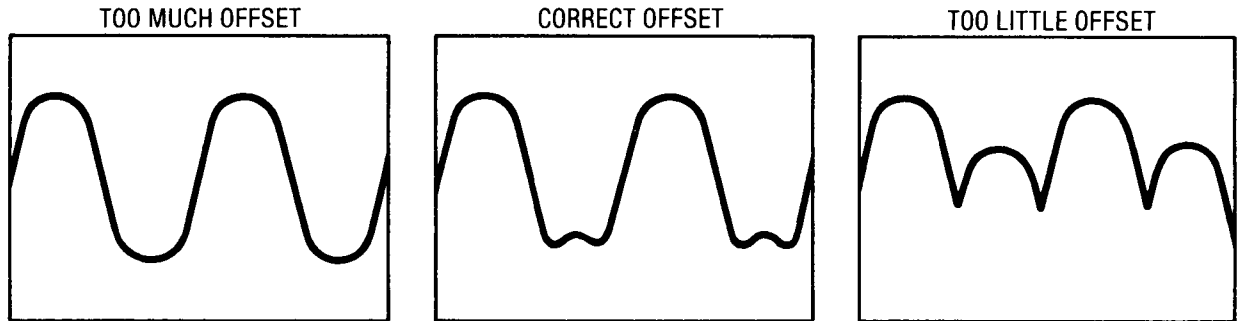

Figure 5-13. YTO Loop Offset Adjustment Waveforms
11. Set the YTO loop offset adjustment A3A9A4R53, OFST, so the sinusoidal waveform just begins to fold over. See Figure 5-13.